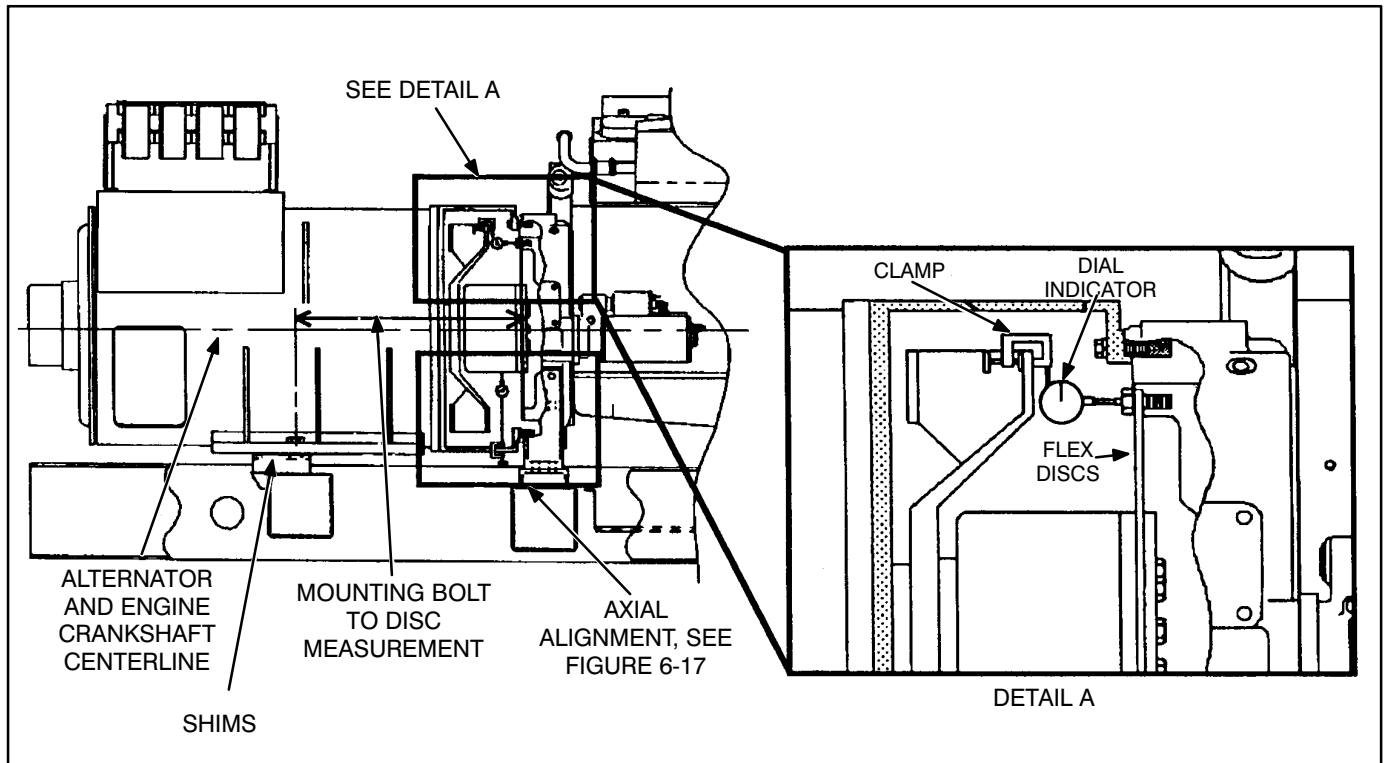

FIGURE 6-15. ANGULAR ALIGNMENT MEASUREMENT
disc at the bolt circle diameter, see Figure 6-15. Bar the engine over in a clockwise rotation as viewed from engine flywheel. Do not allow it to roll back on compression at the end of the travel of each reading. It is unnecessary to zero the indicator since the total indicator reading (T.I.R.) of the deflection measurement to the bolt heads is what is required. T.I.R. will be the sum of the maximum positive and negative dial indicator readings as the engine completes one revolution.
2. Measure the distance from the alternator side of the flex discs to the center of the alternator mounting bolt, refer to Figure 6-15. (For example; a HC6 Frame's distance is 28.4in.)
Fasten dial indicator holding device to skid base, engine block, or alternator shell with a magnetic base or clamp and position so the sensor point of indicator rests on the alternator shaft hub, see Figure 6-15. Bar the engine over in a clockwise rotation as viewed from engine flywheel, through a couple of rotations. Record indicator readings in eight equally spaced points around the shaft diameter. This will provide a T.I.R. for Axial shaft misalignment.